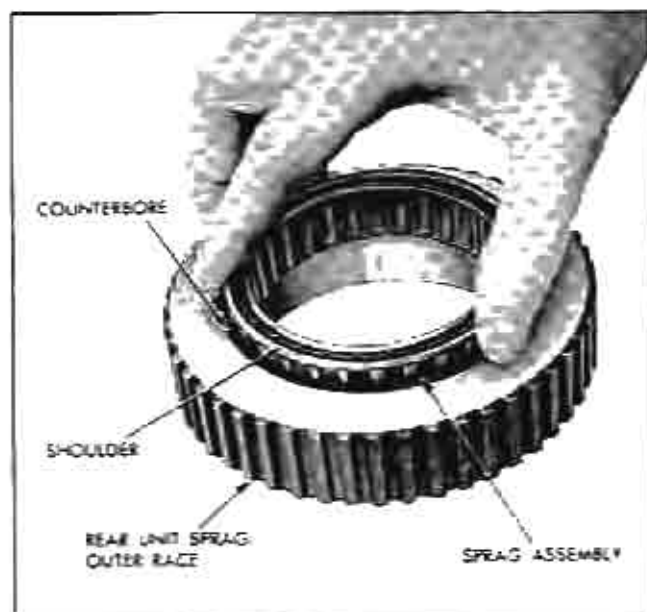

Fig. 93 Installing Rear Unit Sprag in Outer Race
18. Install rear sprag in outer race with shoulder side of sprag on counterbored side of outer race (Fig. 93).